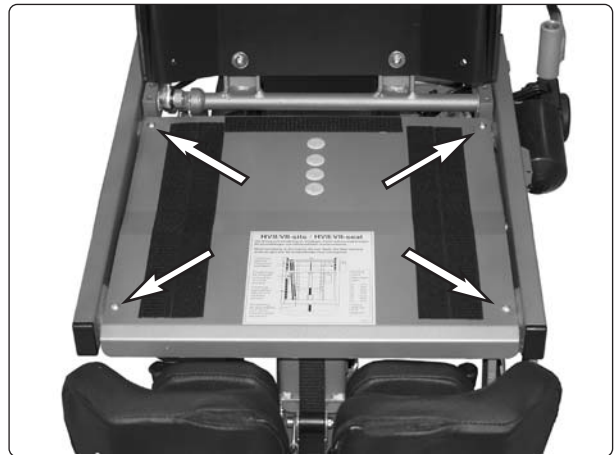

Fig. 5. The seat plates are mounted using four screws.
1. Remove the seat plates. These are mounted using four screws, see Fig. 5.
9. Remount the seat plates. Mount the rear seat plate in the position with the same marking as the bearing brackets and the parallel strut, see Fig. 5.